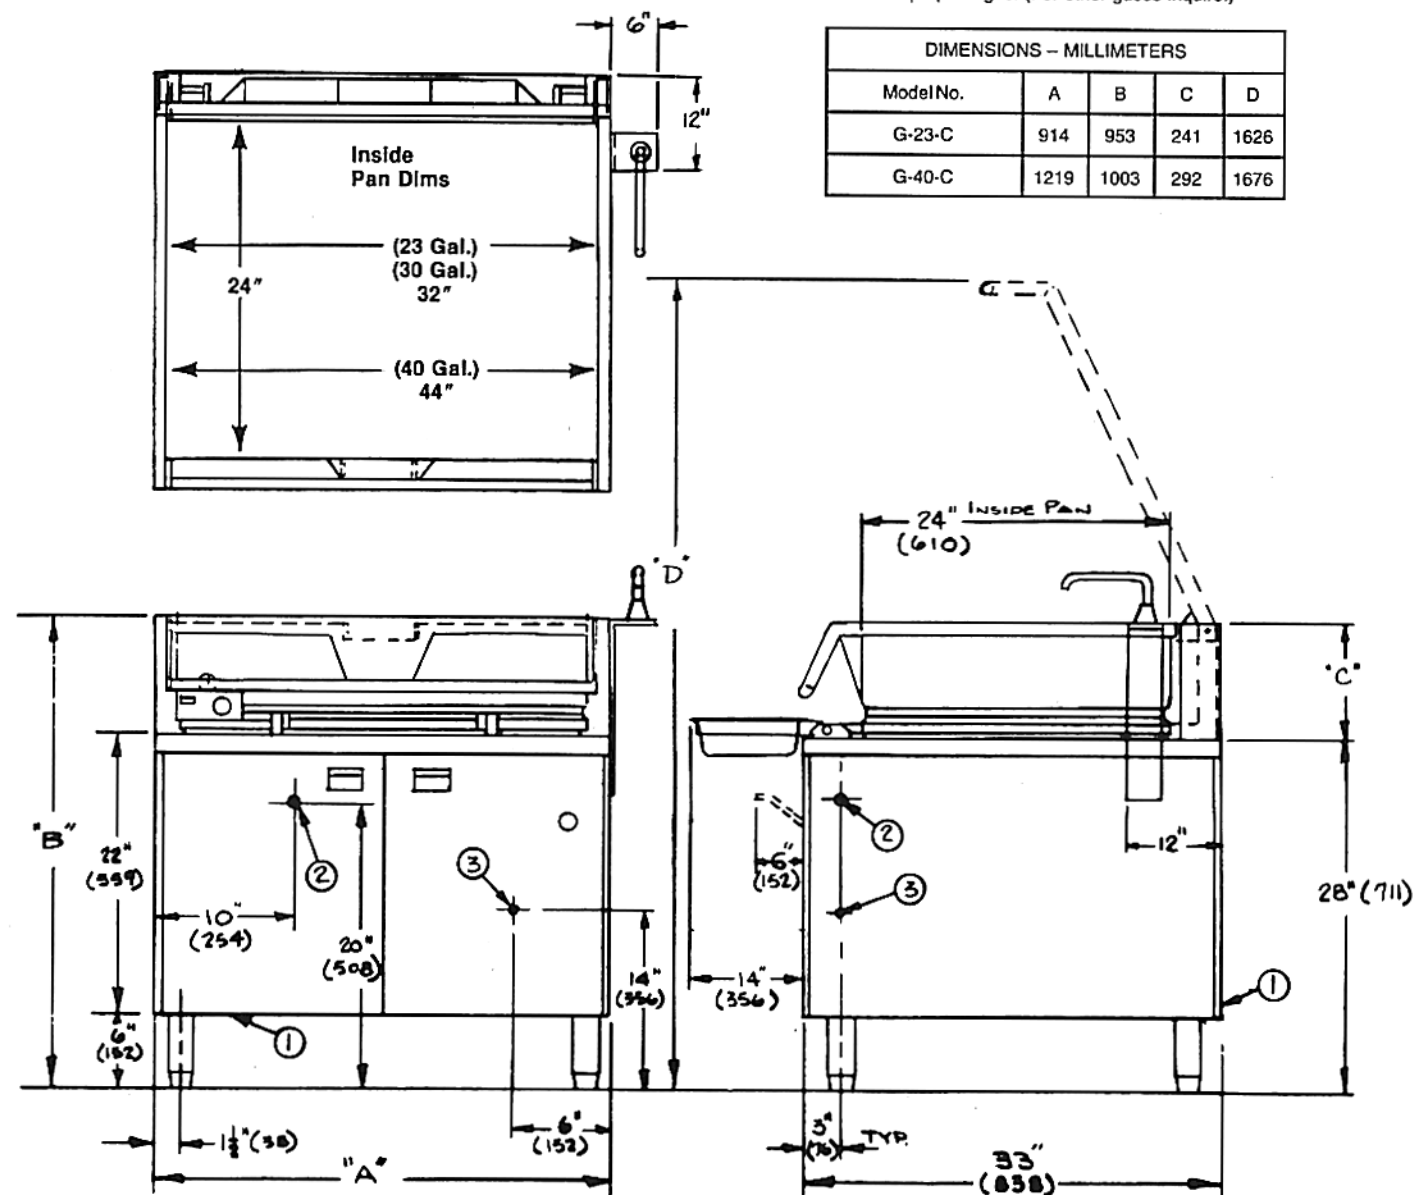

FIGURE 1
(See Figure 1)
7. Control Circuit Power Connection: All units (See Figures 1 and 2). Connect a 120 volt, 50/60 Hz, 1 phase supply to the pigtail leads in the junction box located on rear left of the unit. Use copper wire suitable for 5 amperes, and 75° C temperature. A ground wire must be connected to the ground lug in the junction box.